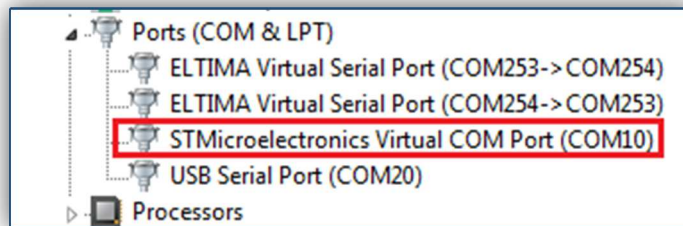

Figure 7. Information of the serial port in Windows 7
- Install the driver that allows configuring the serial communication port of the computer, so that the I-link may communicate with the control panel. In other words, if the user do not install the driver, the I-link may not communicate with the control panel trough serial port (USB). Once installed, if the O.S. is Windows 7, it can see in the Device Manager of the PC the data like the Figure 7.